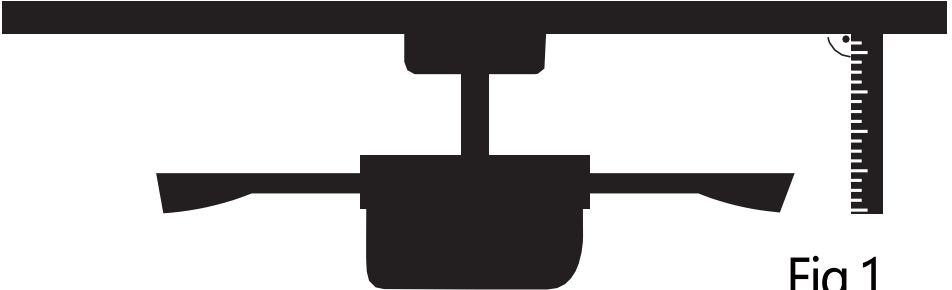

Fig.1
1. The fan blades are not parallel to the ceiling .See Fig.1 how to inspect